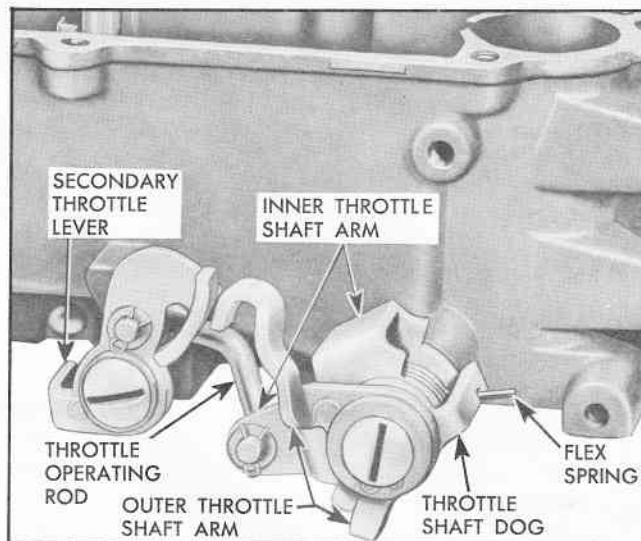

Fig. 19 Primary and Secondary Throttle Linkage
8. Install outer throttle shaft arm, washer and retaining screw on primary throttle shaft (Fig. 19).
10. Install secondary throttle operating spring, lever, washer and screw (Fig. 19). Wind spring two turns tight.